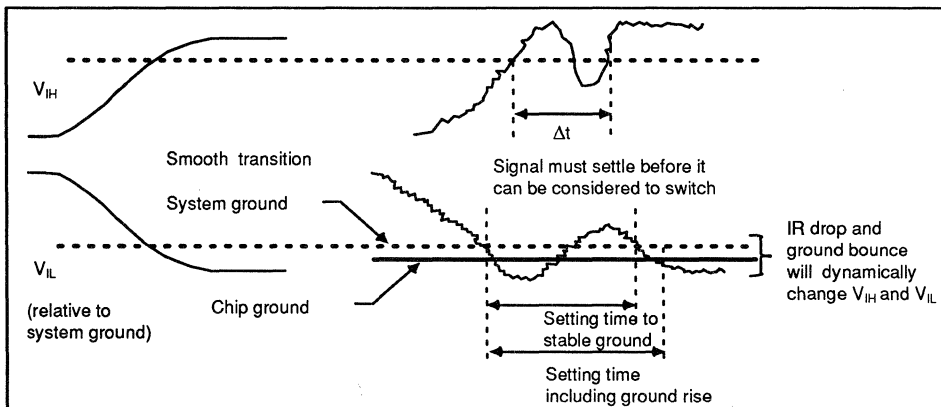

Figure 3. Impact of Noise on Speed
There are various sources of noise that can affect an integrated circuit (IC), each with its own effect; all forms of noise influence signal speed, quality, and consequently, system reliability. Certain types of noise arise between a chip I/O and ground or power, while other forms of noise are coupled to the power rails and influence system power and ground lines, propagating noise throughout the entire system. Noise appears to an input buffer (receiver) relative to the receiver's ground. Any noise on this referenced signal is superimposed onto the incoming signal itself, as shown in Figure 3. The V_{IH} or input threshold level of the receiver indicates when the input will switch, if the signal is stable at that level. Therefore, although the input voltage ordinarily would switch 4 ns after the driver switches, when the signal first crosses the threshold, the designer must assume it will not switch until it is stable; in this case at 8 ns, producing a loss of 4 ns due to noise.